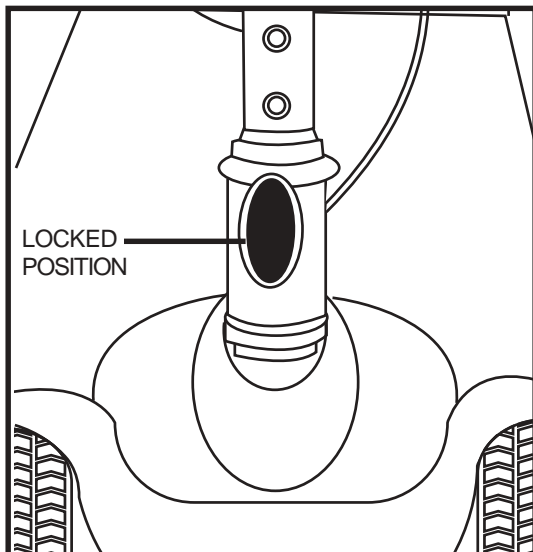

Figure 22. Tiller Lock knob (Locked)
1. Lock the tiller in the straight ahead position by pushing the tiller lock knob in and turning it clockwise 90°. **See figure 22.** The front wheel must face forward in order to lock the tiller.